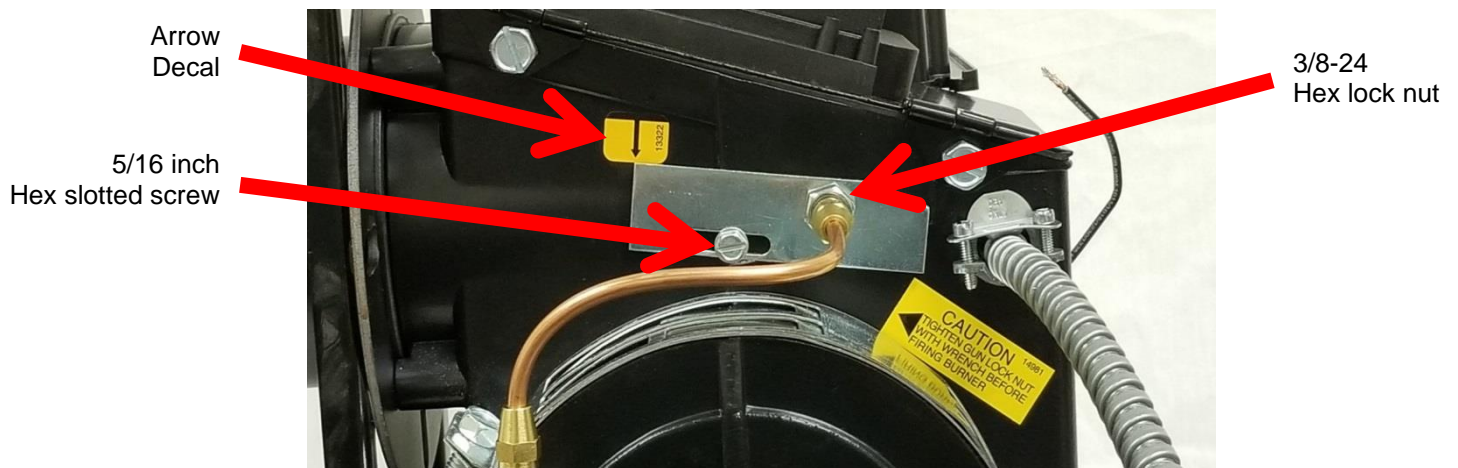

Figure 18– Oil Gun Depth Adjustment
2. To position the gun assembly forward or backwards, loosen the gun assembly 3/8-24 hex lock nut with a 9/16 inch wrench and the 5/16 inch hex slotted slot cover screw as shown in Figure 18.